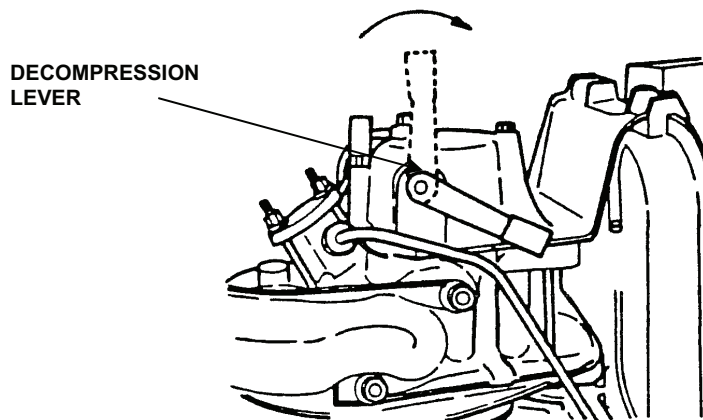

Figure 25. Decompression Lever.
- Push and hold down on the decompression lever on the diesel engine. See Figure 25.